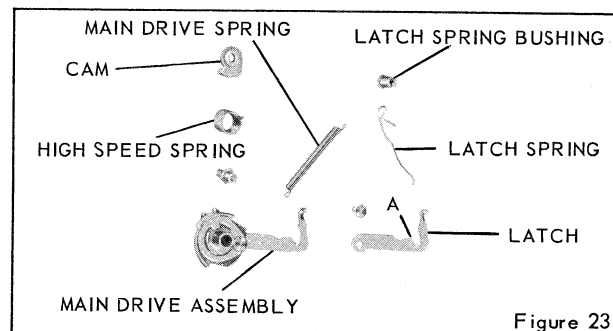

Figure 23
4. Unhook the MAIN DRIVE SPRING, figure 23, from the MAIN DRIVE SPRING STUD, figure 29.
3. Place the long end of the spring against the inner side of the blade controller LATCH SPRING BUSHING, figure 23.
4. Unhook the LATCH SPRING, figure 23, from the main drive LATCH.
7. MAIN DRIVE ASSEMBLY, figure 23, to which is attached the main drive spring.
1. Apply a thin film of grease (Texaco Unitemp-RCX169 Grease) to the slot on the main drive assembly where it engages the stop stud on the SETTING LEVER, figure 27; on the MAIN DRIVE STUD, figure 29; on the LATCH, figure 23, at the point of contact with the LATCH SPRING, and on the latch where it contacts the RETARDING SECTOR STUD, figure 29. This area of the latch should be burnished before applying the lubricant.
11. Blade controller LATCH SPRING BUSHING, figure 23, and the LATCH SPRING.